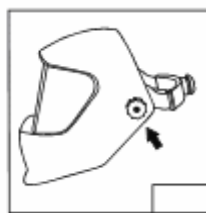

Figure11
2.3 Adjusting the tightness of the screws on the both sides of the mask can change the up-down level of it and can also turn up or put down it. In the welding, the optimal angle is that the line linking the eyes and welding spot is perpendicular to the filter.(to see figure 11)